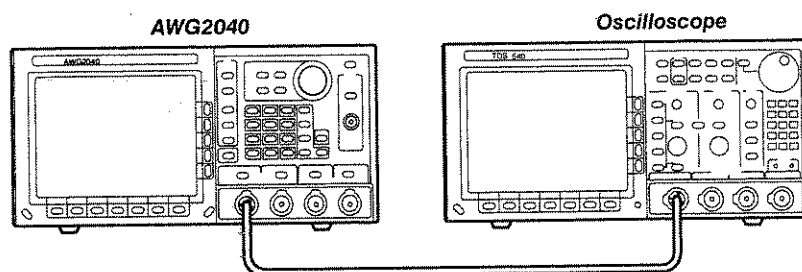

Figure E-4: Cont Mode Initial Test Hookup
- a. *Hook up the oscilloscope:* Connect the AWG2040 CH1 output connector through the coaxial cable to the CH1 vertical input connector on the oscilloscope (see Figure E-4).